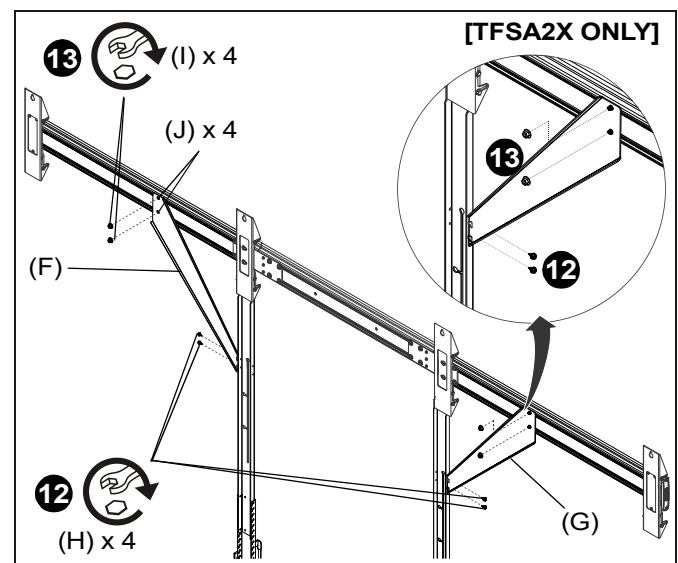

Figure 19
5. **TFSA2X only:** Slide the right (F) and left (G) supports down the extrusion assemblies (A, B) towards the uprights. (See Figure 19)
6. **TFSA2X only:** Install the lower ends of the right (F) and left (G) supports to the uprights using four self-tapping screws (H). (See Figure 19)
7. **TFSA2X only:** Tighten the flange nuts (I) to secure the right (F) and left (G) supports. (See Figure 19)